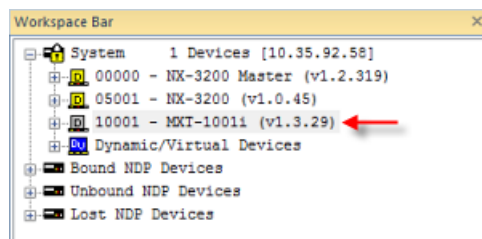

FIG. 157 NetLinX Studio Online Tree (MXT-1001 selected)
2. Under *System*, select a G5 panel for the firmware update (FIG. 157):